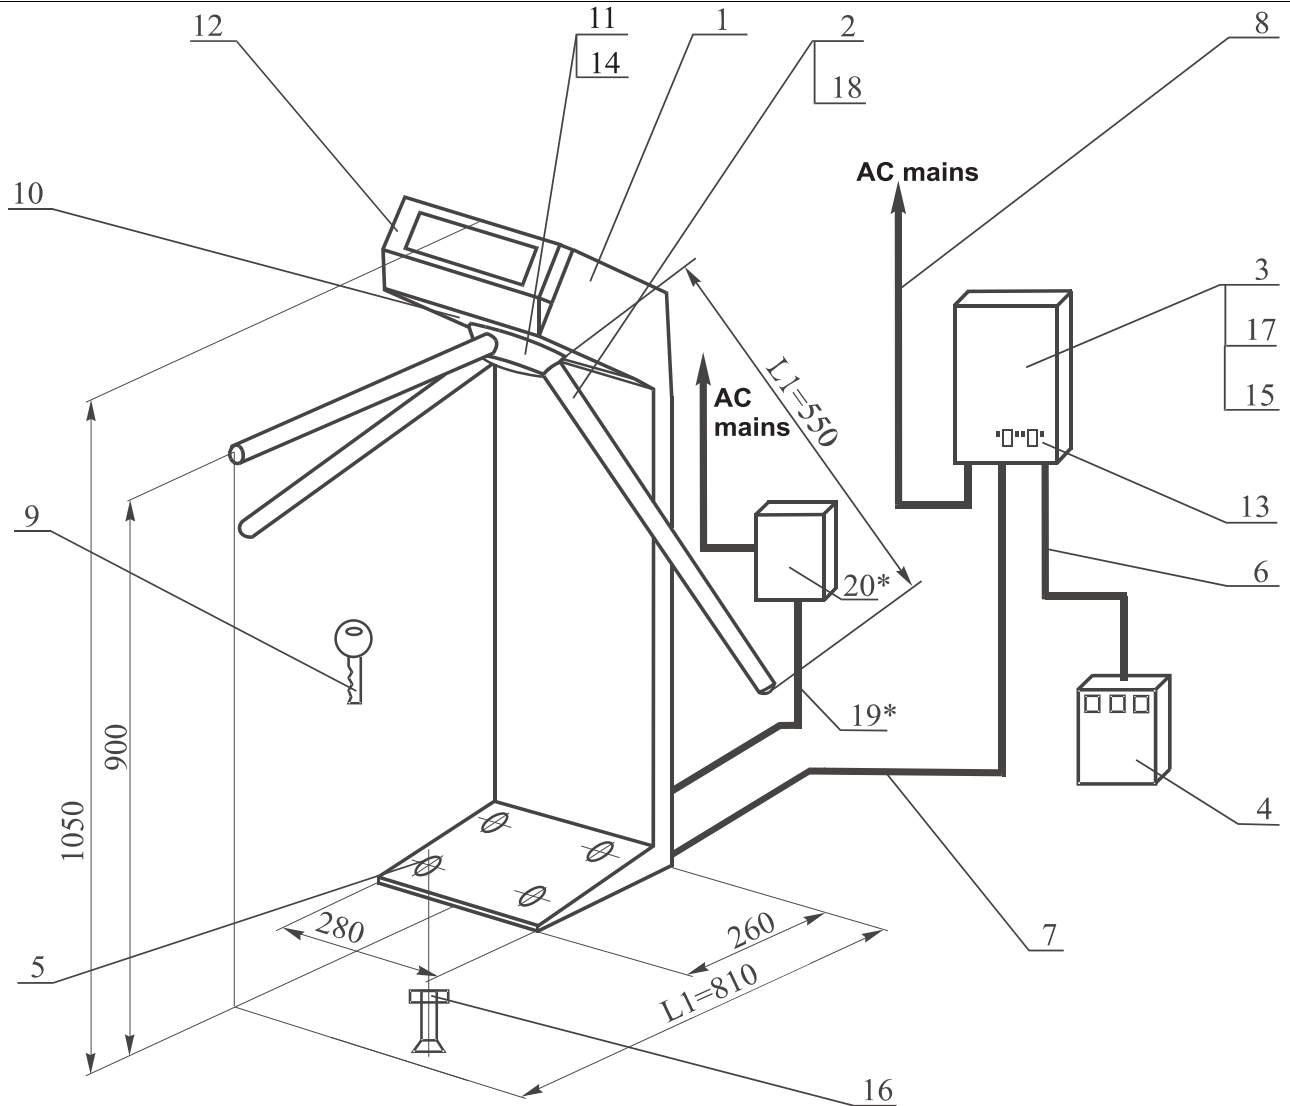
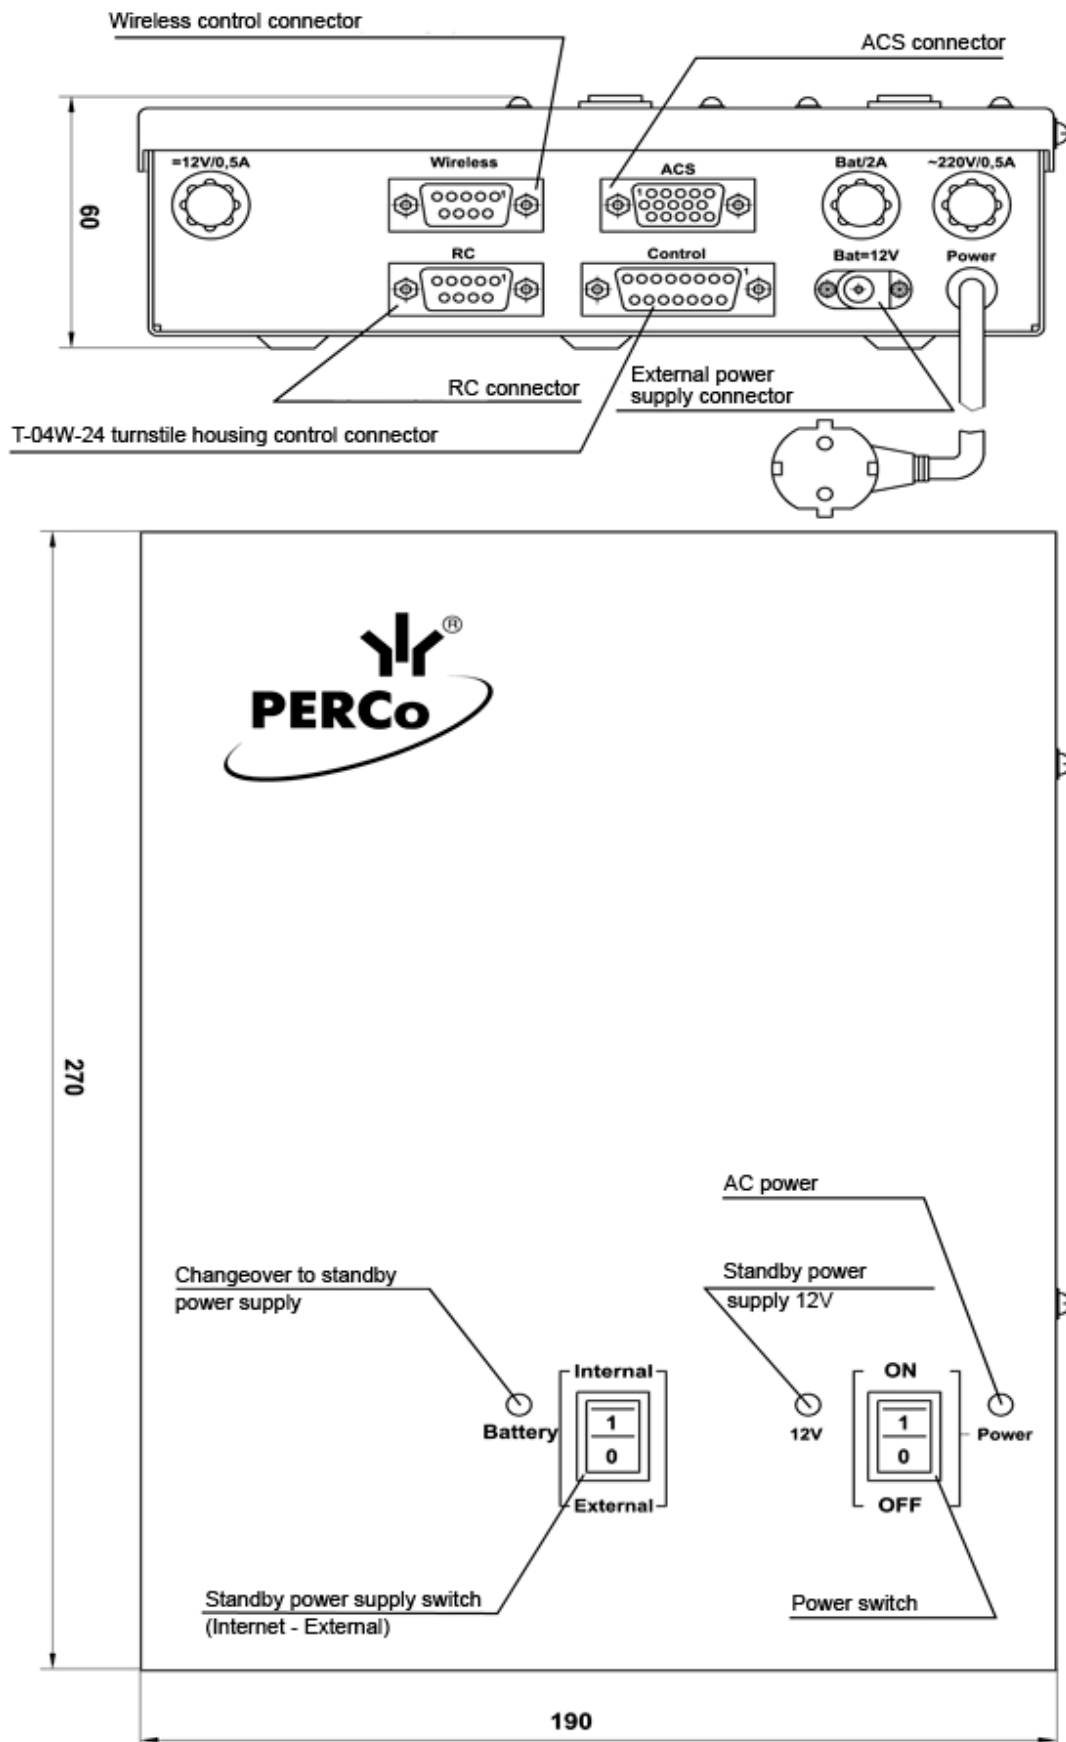

Fig. 1 TTR-04CW-24 overall view
Fig. 2 Control unit
The design of the turnstile is shown in Fig. 1.
6.2.4. The remote control panel (the RC panel) is designed as a small desktop device with a shockproof ABS plastic case and is intended for setting and indicating operating modes when the turnstile is operated manually. The RC panel is connected to the control unit (the CU) with a multicore flexible cable (6) via the «RC» connector (Fig. 2).
If the turnstile housing installation is not standard (e.g. the operator’s terminal is placed at the backside of the turnstile housing and not at the front side), the RC panel orientation towards the turnstile housing can be changed by switching the RC panel over to the “Wireless” connector of the CU (Fig. 2.).
6.2.5. The CU (Fig.1 and Fig.2) comes as a separate device in a metal case with pull-resistant fasteners for wall mounting or desk-mounting. The CU contains power transformer, control board and 12V standby power supply battery (SPS battery).
The CU front panel has the following LED indicators (Fig. 2):
Variant 2: Information on state of rotation sensors is transmitted to the «Sens R/Pass R» and «Sens L/Pass L» contacts. At passage, turning the hub (11 in Fig.1) at 120°, the following pattern is formed: